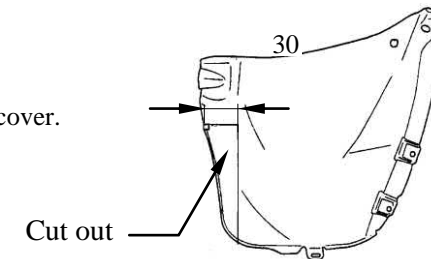

Fig. 3. Right side cover – cut out.
3. Disassemble plastic covers from both sides of the chassis, see fig. 3.
4. Put main bar of the towing hitch (pos. 1) to chassis members in this way, so holes of the towing hitch agree with original holes in chassis members. Twist bolts M12x1,25x35mm (pos. 5).
5. Mount cover elements after cut right element according to figure 3.